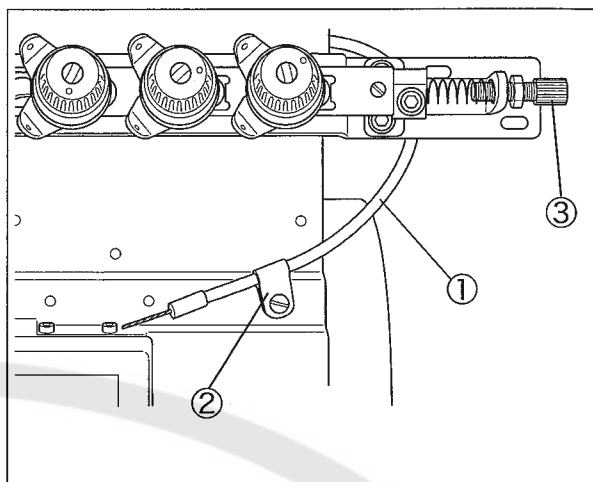

Fig. 1
1. Remove the cord clamp ②.
2. Make sure that the wire guides ③④ have been fixed by the lock nuts ⑤⑥ at the middle screw part of the wire guides ③④. (Fig. 1, 3)